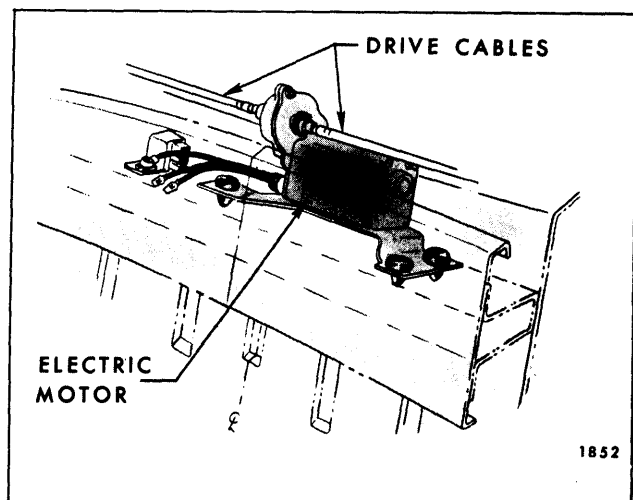

Fig. 13-73—Folding Top Electric Power Unit "Z" Styles
- b. Disconnect both drive cables from motor assembly (Fig. 13-73).
2. Disconnect both drive cables from motor assembly (Fig. 13-73).